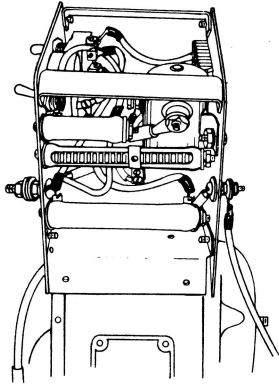

Figure 25
b. If the generator is equipped with a resistor in the shunt field circuit, remove the control box cover and check the field resistor. See Fig. 25.